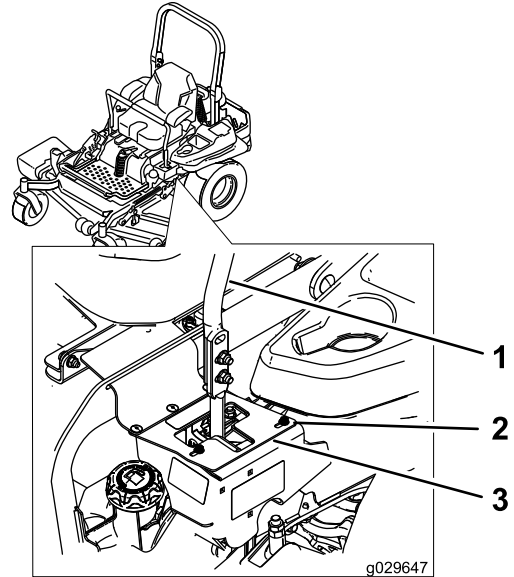

Figure 68
8. Tighten the stop plate (Figure 68).
- If it tracks to the right, loosen the bolts and adjust the left stop plate rearward on the left T-slot until the machine tracks straight (Figure 68).
- If it tracks to the left, loosen the bolts and adjust the right stop plate rearward on the right T-slot until the machine tracks straight (Figure 68).